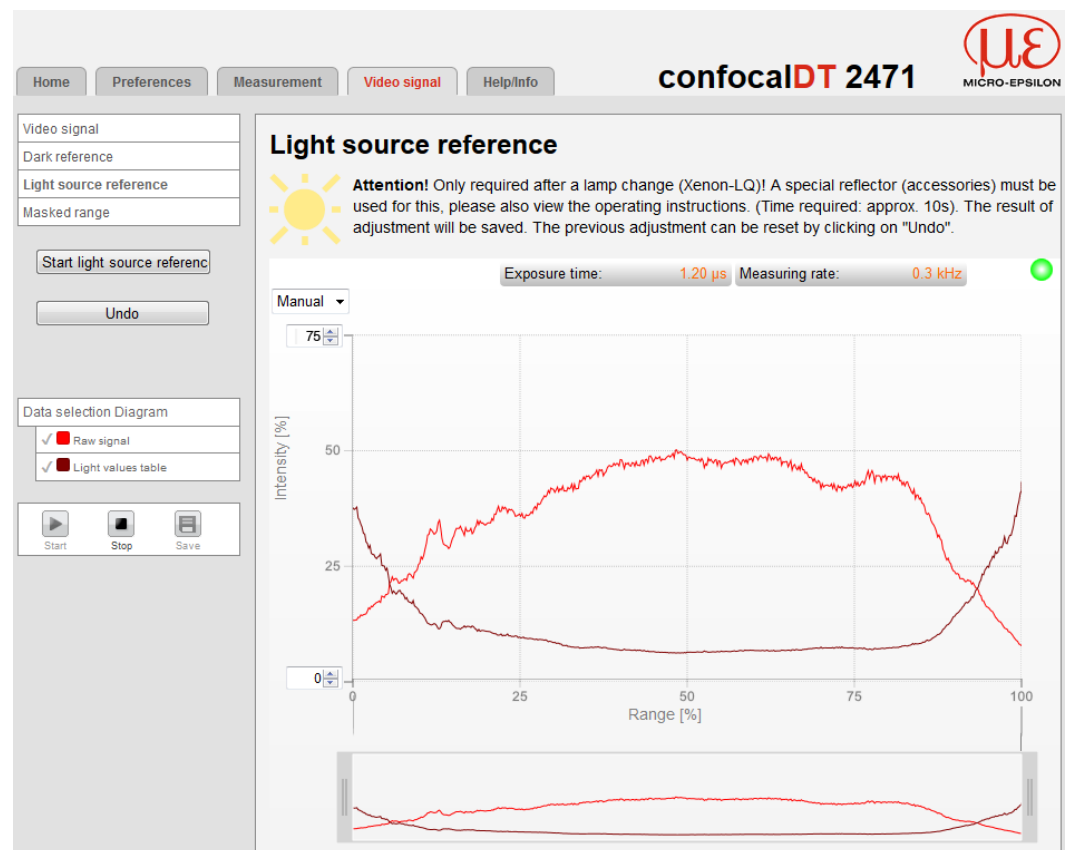

Fig. 55 Light reference video signal (example: IFC2471 with xenon light source)
- ➡ Observe the video signal, see Fig. 55.